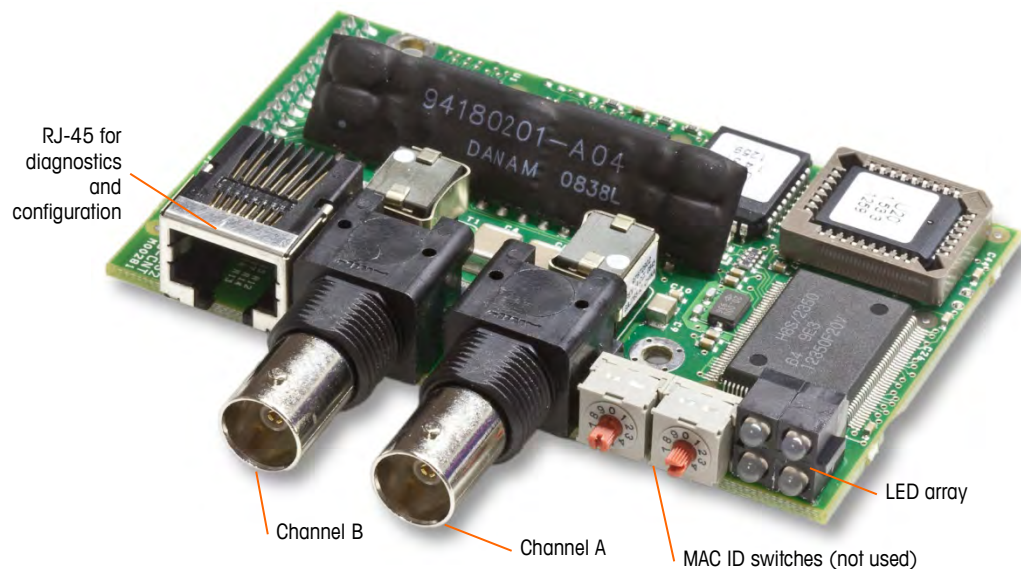

Figure 4-1: ControlNet PLC Module and its Components
The ControlNet option enables the IND131/IND331 terminal to communicate to ControlNet Programmable Logic Controllers (PLCs) through direct connection to the ControlNet network. The kit consists of an I/O module and software that resides in the IND131/IND331 terminal to implement the data exchange. Figure 4-1 shows the ControlNet module and its components.
- Do **not** plug an Ethernet cable into the RJ-45 connector shown at left in Figure 4-1. This connection is not used.